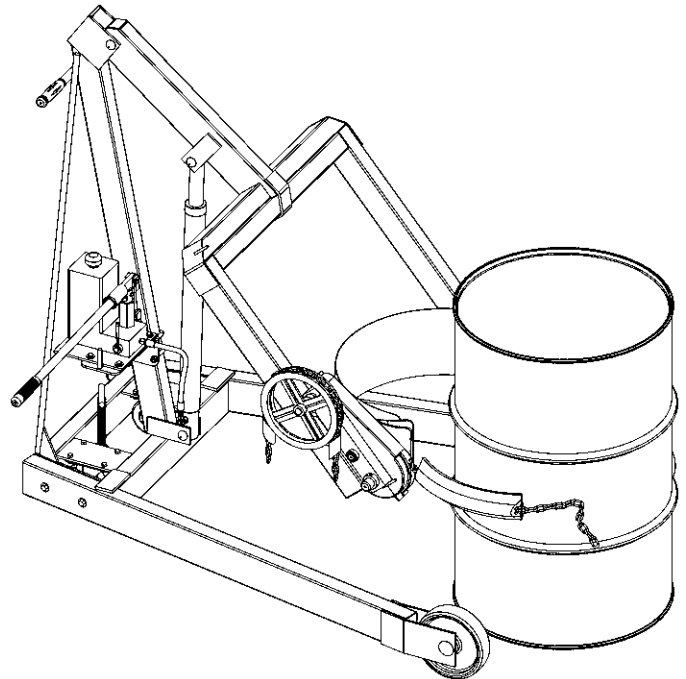

Figure 3.1
The screw-down floor lock is located on the base of the tower (figure 3.1). Turning the floor lock clockwise until it locks in the down position activates the floor lock. When the floor lock is activated it prevents unwanted free wheeling of the unit. Floor conditions determine the effectiveness of the floor lock. The operator should verify its holding action before depending on it to hold.
2. Using the “LIFT” control as described in “Machine Description - Controls” (page 3) , position the drum holder assembly with the back band at the middle of the drum. (Figure 3.1). With the ratchet plate swung open and the cinch chain hanging from the chain hook, push the unit until the back band rests firmly against the drum. Some adjustment to the tilt angle of the saddle may be necessary to ensure band fits flush on the drum.